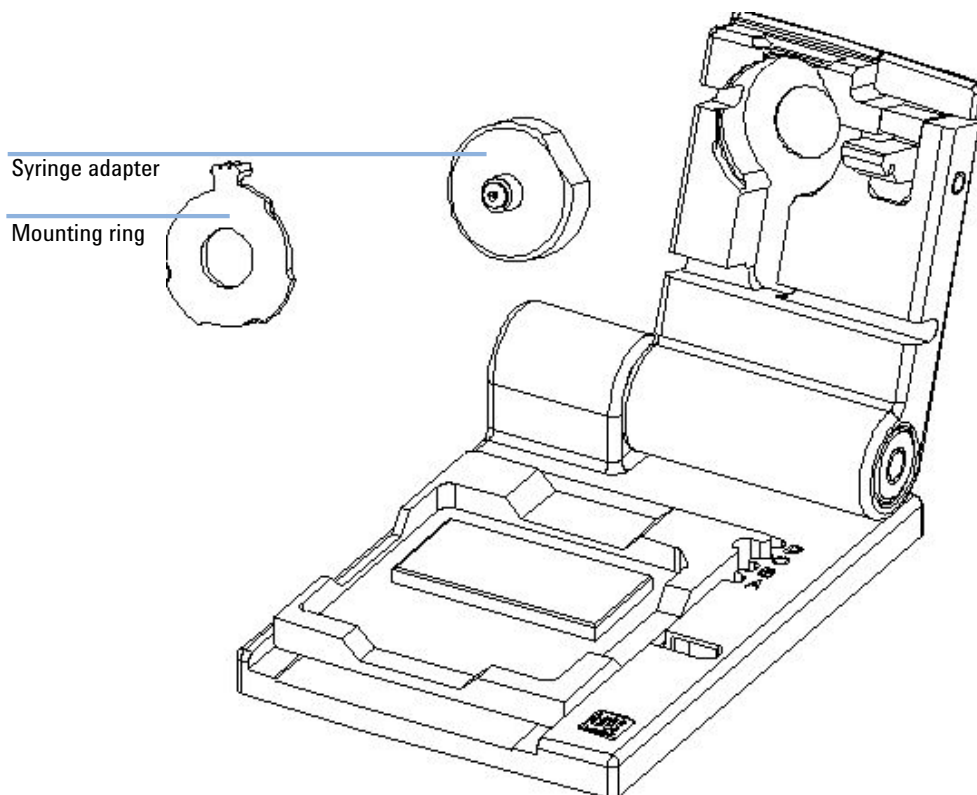

Figure 5 Removing/replacing the syringe adapter
- 3 Press the syringe adapter out of its mount as shown in Figure 5 on page 130.
- 8 Insert the syringe adapter, see Figure 5 on page 130.
<div><div>3</div><div>Insert the syringe adapter, see Figure 5 on page 130.</div></div>